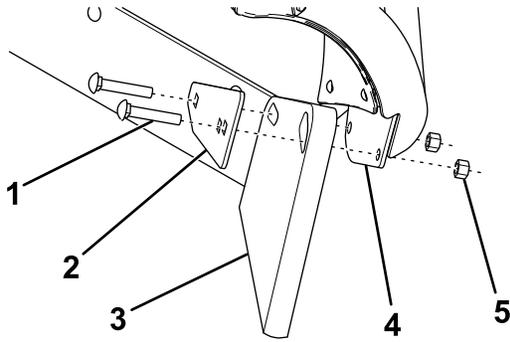

Figure 22
15. Loosely attach the plow wing cutting edge to the plow wing using 2 carriage bolts (5/8 inch), a mounting plate, and 2 nuts (Figure 22).